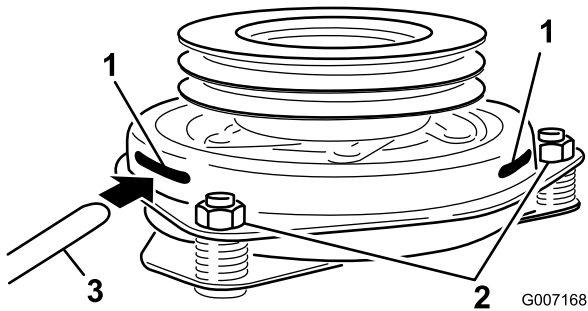

Figure 66
8. Insert a 0.381–0.533 mm (0.015–0.021 inch) feeler gauge through one inspection slot in the side of the assembly. Make sure that it is between the armature and the rotor friction surfaces (Figure 66).
9. Tighten the locknuts until there is slight binding on the feeler gauge but it can be moved easily within the air gap (Figure 66).